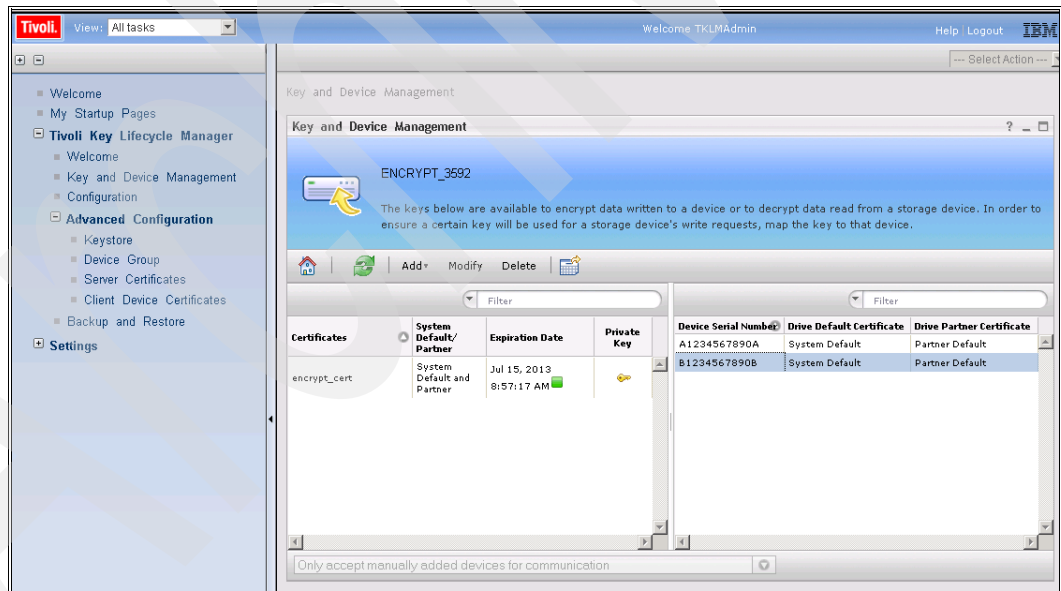

Figure 9-25 Tape drive highlighted
- Figure 9-25 shows the highlighted drive that will be deleted from this device group. Click **Delete**.
4. A confirmation window prompts you to accept or reject the deletion (Figure 9-25). Click **OK** to delete the drive; click **Cancel** to keep drive in the device group.